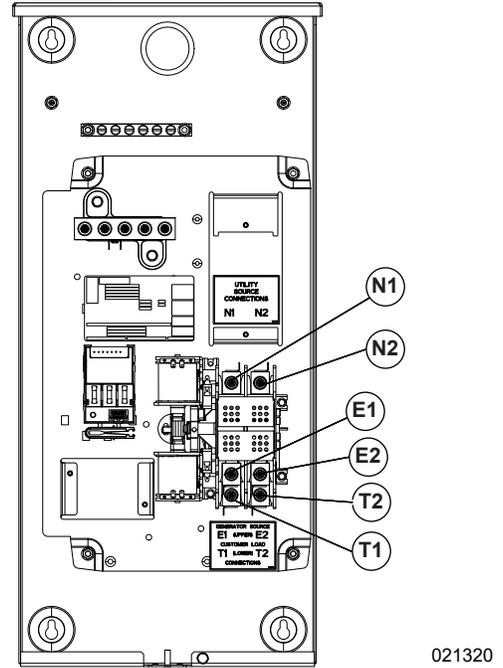

Figure 3-5. Wiring Connections (Non-Service Entrance Rated Models)
1. See **Figure 3-5**. Connect utility supply at the utility terminals (N1 and N2) on the transfer mechanism.